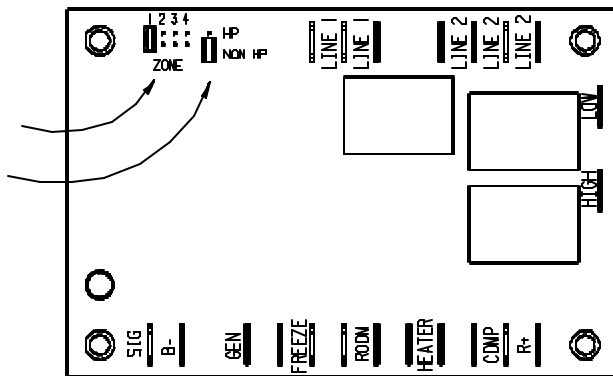

FIGURE 2
2. Set the "zone" jumper to the proper zone position for the particular position the air conditioner or heat pump will be in the coach (Refer to Figure 2 - Zone 1 is shown). Note: Zones should be numbered from the front to the back of the coach with Zone 1 in front.
3. Set the "HP"/"NON HP" jumper to "HP" if the unit is a heat pump or to "NON HP" if the unit is not a heat pump (Refer to Figure 2 - Non HP is shown).